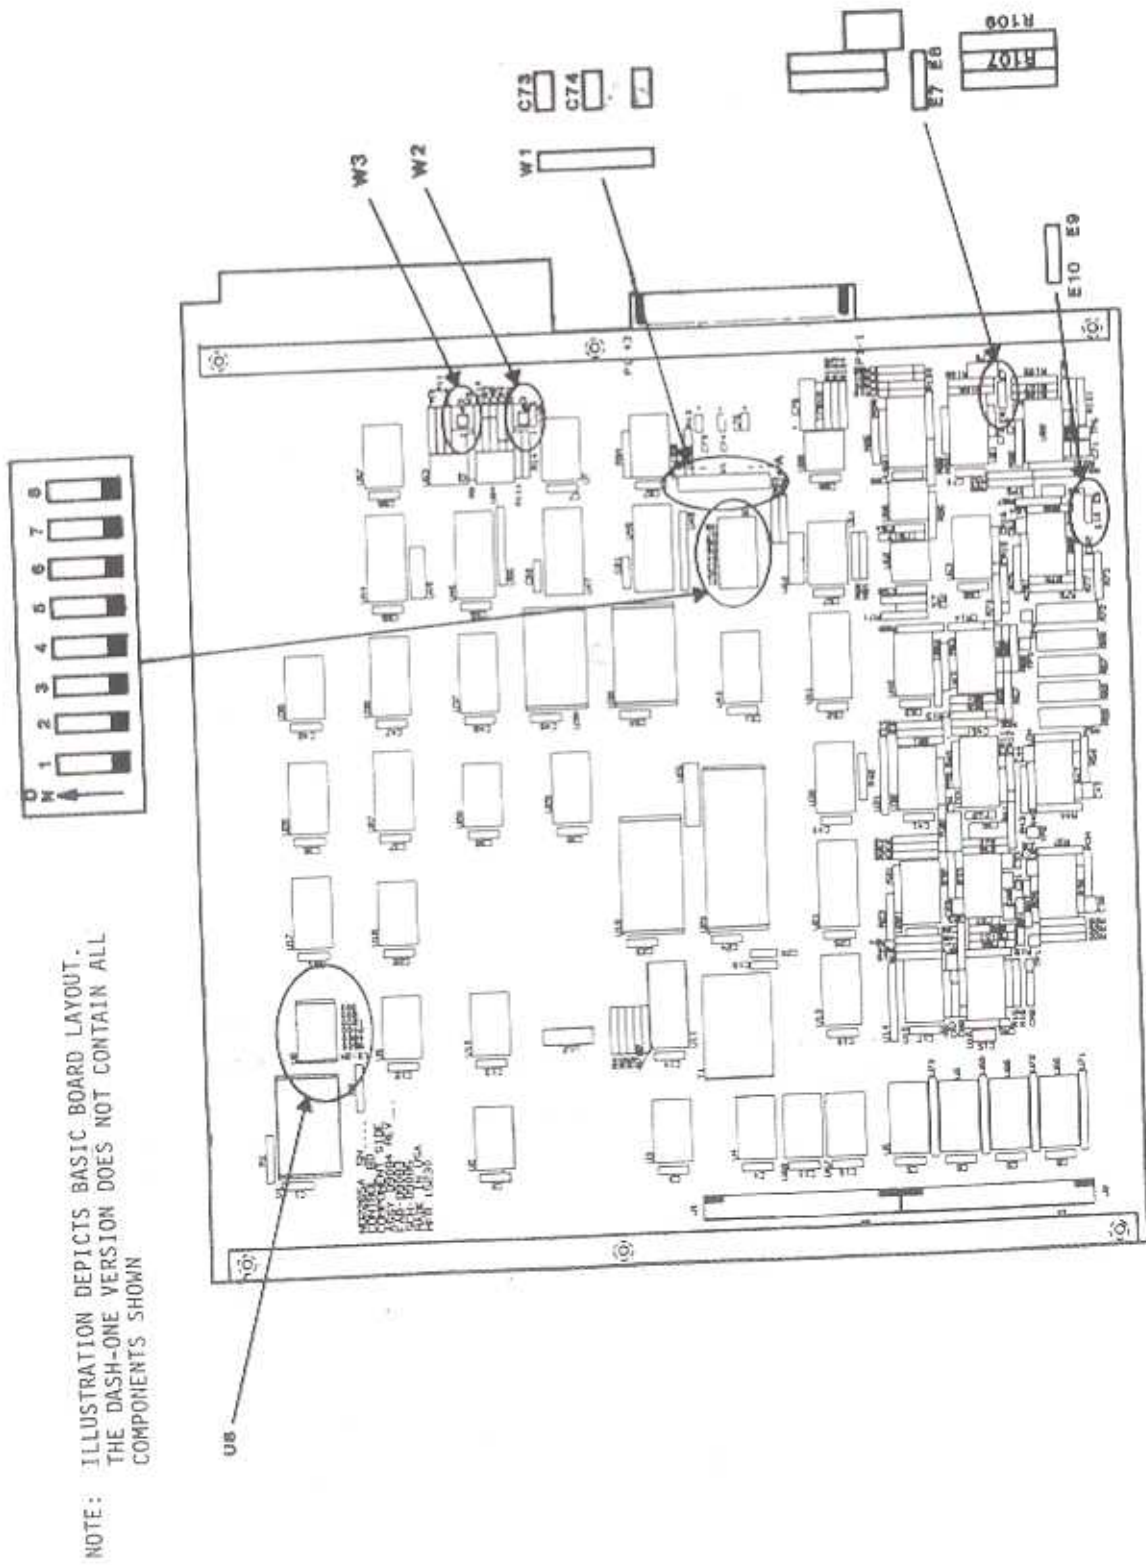

Figure 2-8. Expanded View of Control Board Showing Jumper and Switch Locations
2.7.1.6 PWB JUMPERS. The following jumpers, illustrated in Figure 2-8, are provided for operations as follows.
2.7.2.3 PWB JUMPERS AND OPTIONS. The following jumpers and options, shown in Figure 2-8, will yield the indicated results: